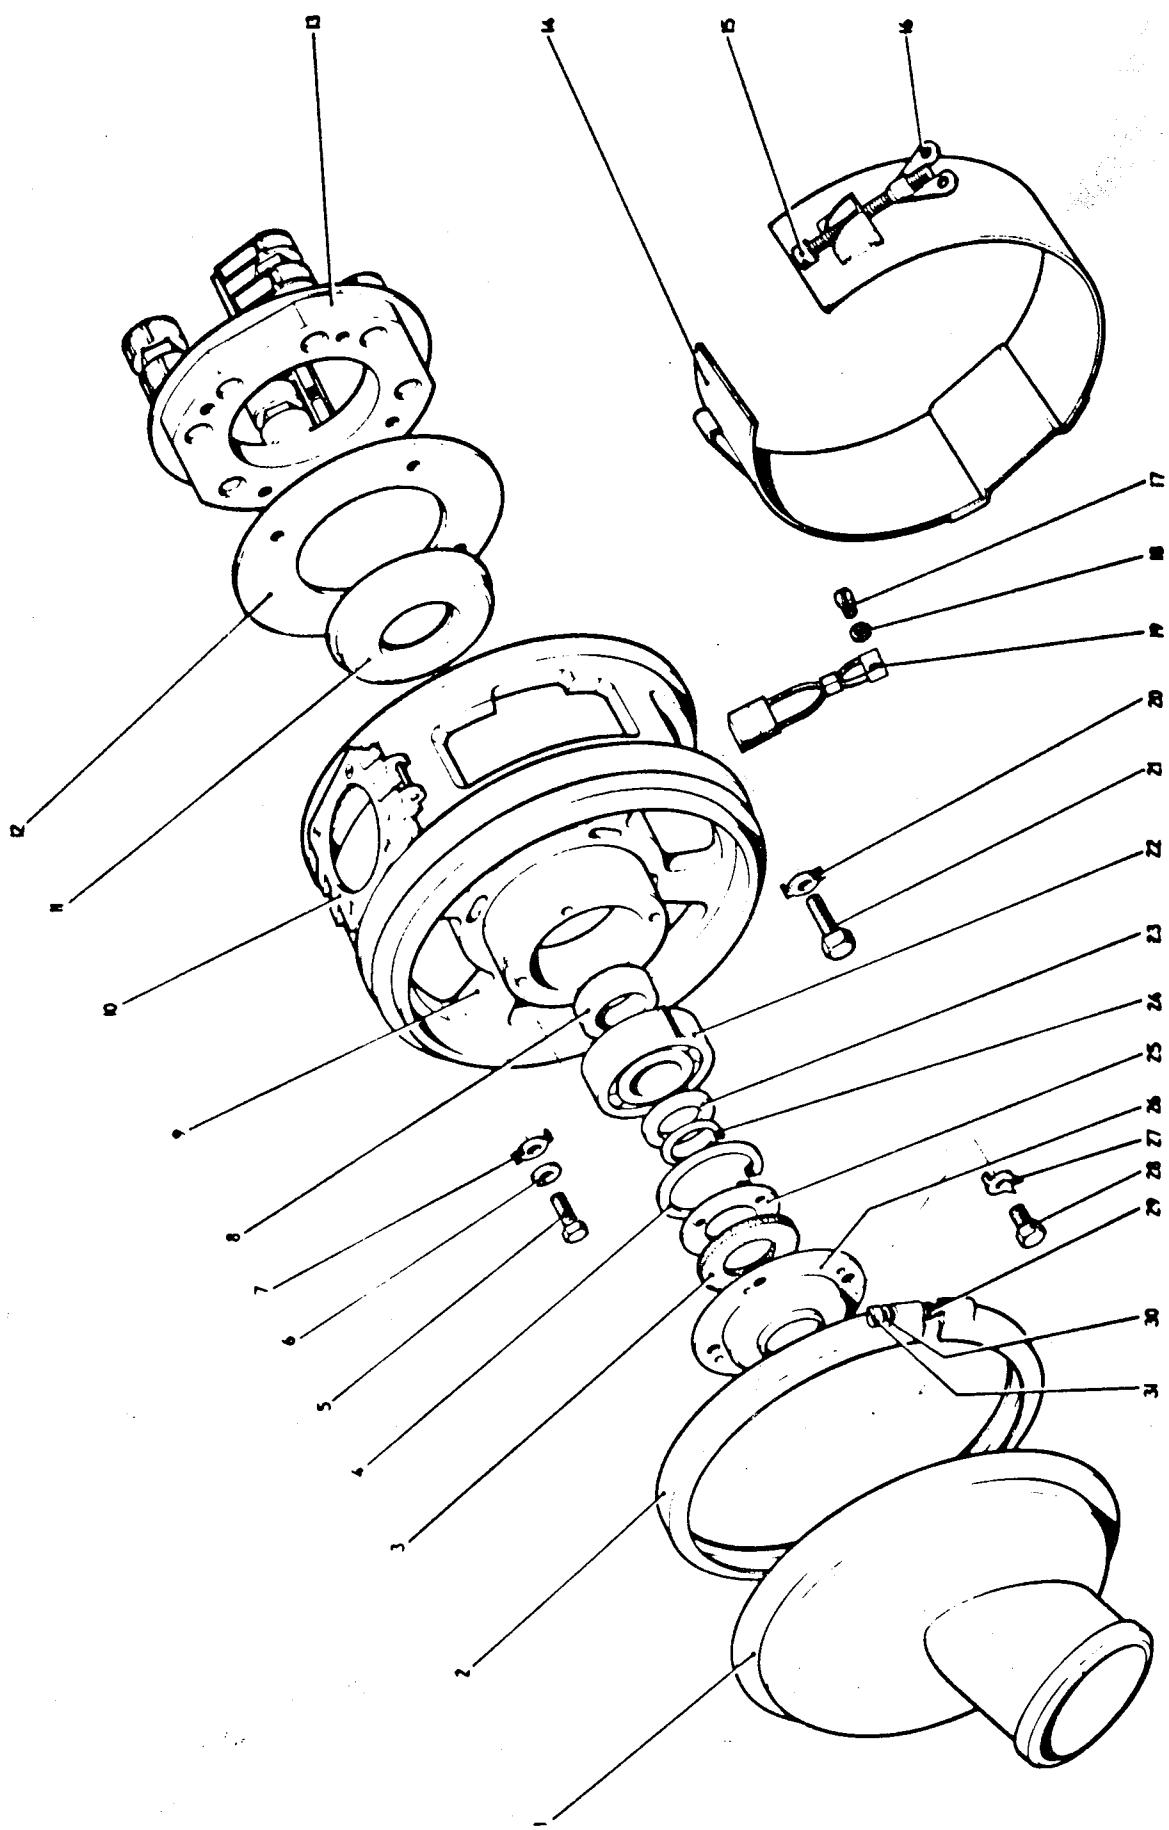

Fig. 1 Generator, commutator-end - exploded view
Key to fig.1
3. To dismantle the generator refer to fig.1 and proceed as follows: